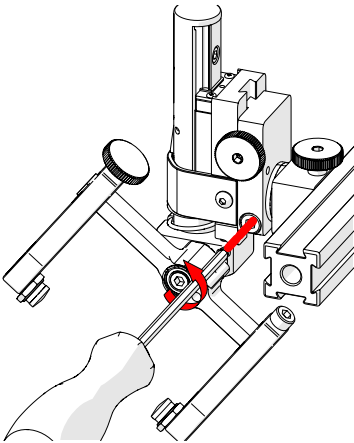

Fig. 75 - Loosen 3 mm screw
2. Using the supplied 3 mm hex driver (Fig. 33), loosen the longitudinal adjustment screw (Fig. 75).